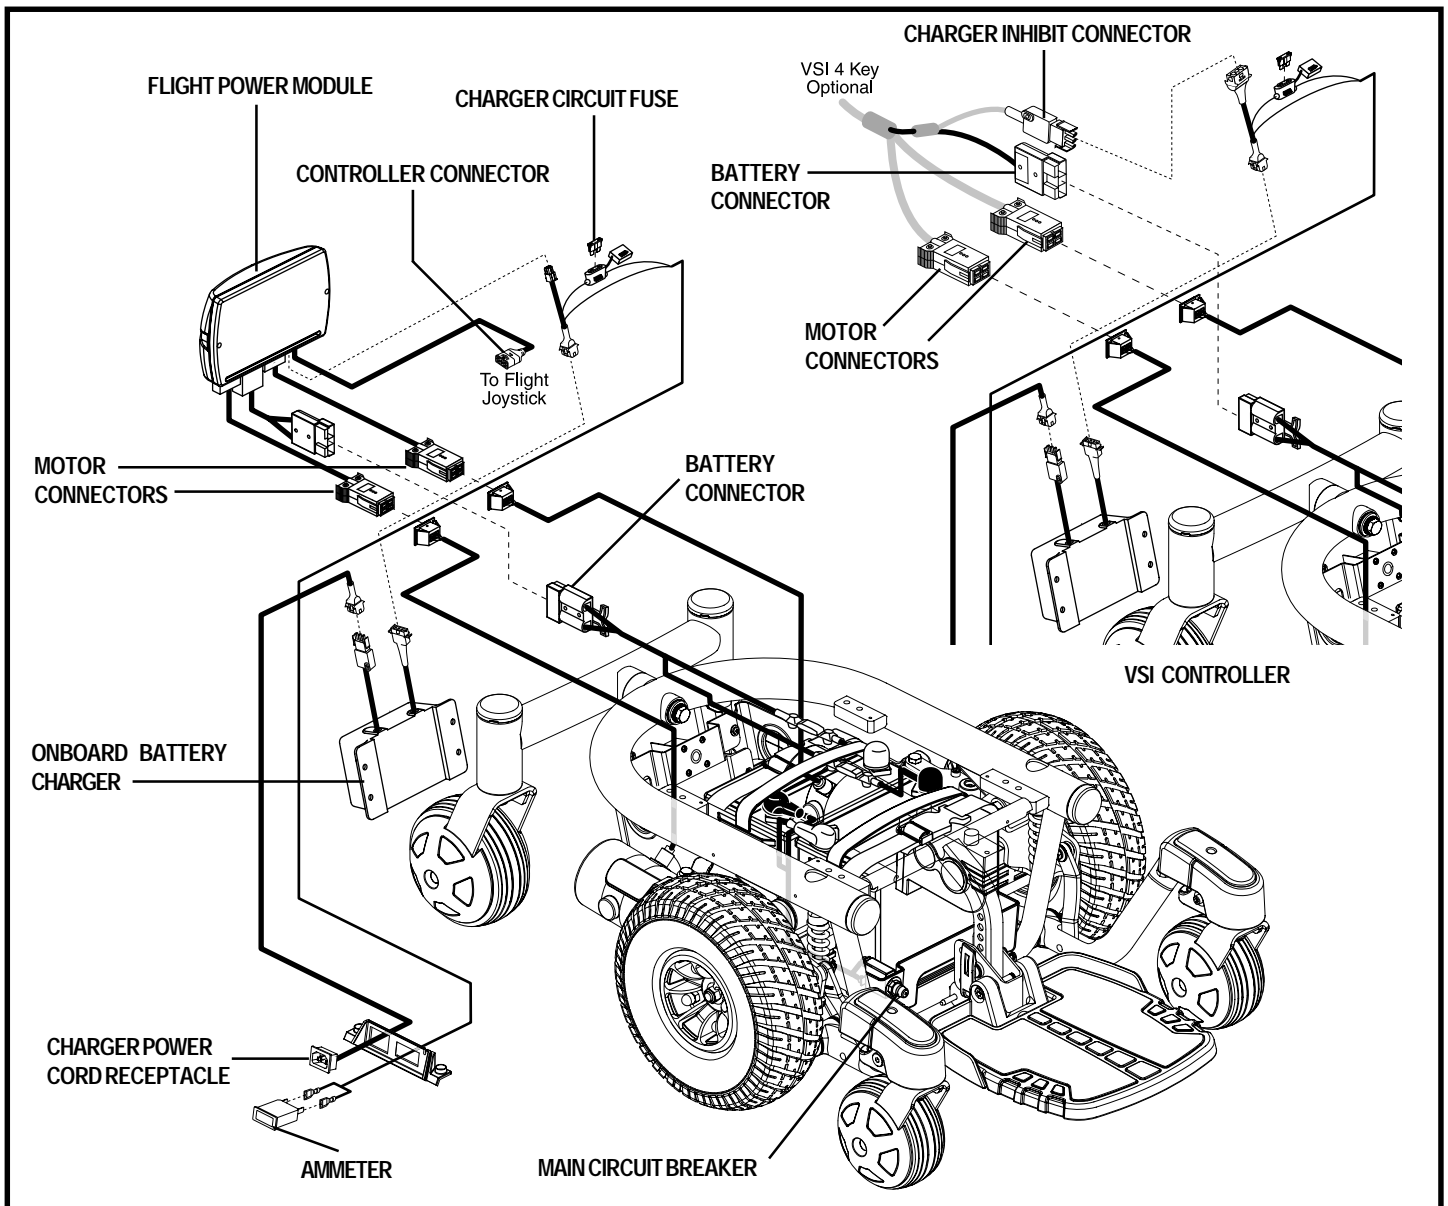

Figure 7. Quantum 610 Electrical Components (Shown With Optional Onboard Battery Charger)
The electrical components are located inside the power base. The ammeter and the charger power cord receptacle for the optional onboard charger are located on the right side of the power base. The main circuit breaker is located on the front of the battery tray. The controller connector(s) are located inside the power base. See figure 7.
6. Plug the controller connector into the power base. See figure 7.
3. Disconnect the controller connector(s) from the power base. See figure 7.